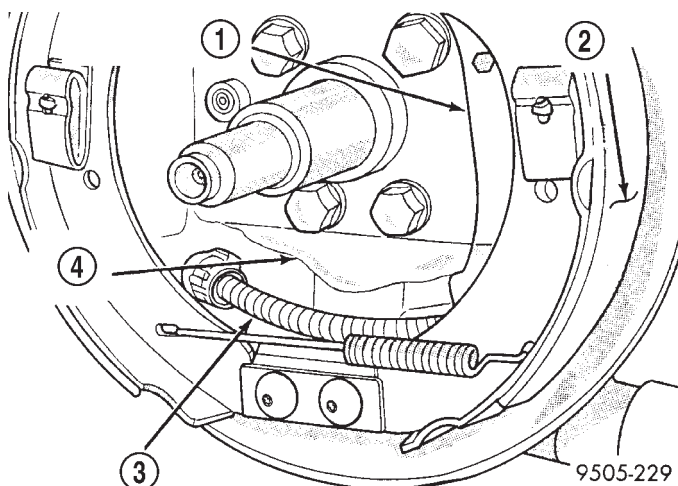
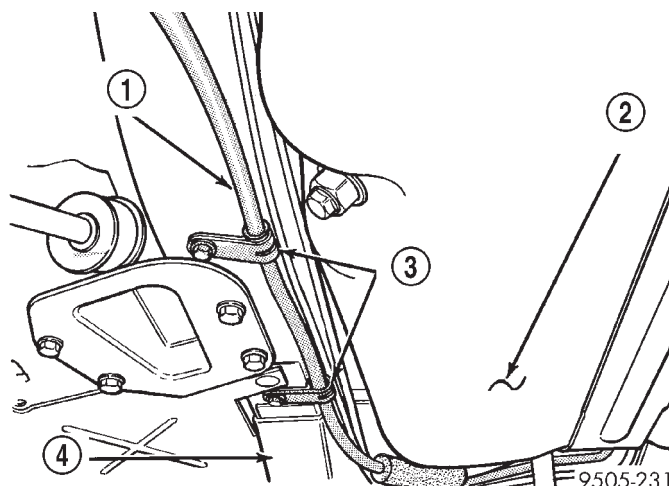

Fig. 145 Rear Park Brake Cable At Actuating Lever
Fig. 147 Park Brake Cable Routing Brackets
(24) Remove the hub/bearing from the spindle.
(25) Remove the park brake cable from the park brake actuating lever on the trailing brake shoe (Fig. 145).
(28) Remove the 2 routing brackets (Fig. 147) attaching the park brake cable to the vehicle frame rail.
(2) Install the 2 parking brake cable routing brackets (Fig. 147) on the frame rail. Install and securely tighten the routing bracket attaching bolts.
(3) Install the park brake cable into the rear brake support plate **but do not** lock the locking tabs on the cable attachment retainer into the brake support plate.
(4) Install the park brake cable on the park brake actuating lever of the trailing brake shoe (Fig. 145).